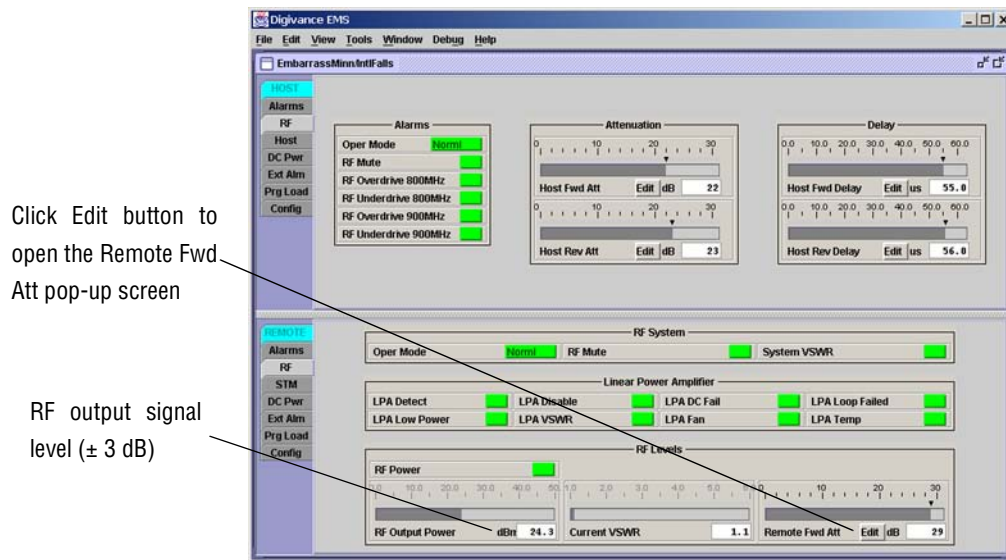
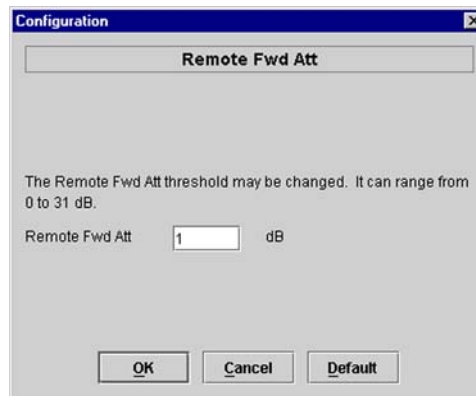

Figure 3-9. Typical REMOTE LPA Display
Figure 3-10. Remote Fwd Att Pop-Up Screen
1. Click on the REMOTE **RF** tab. The REMOTE **RF** display will open within the EMS main window as shown in Figure 3-9.
4. Click on the **Remote Fwd Att** field **Edit** button (see Figure 3-9). The **Remote Fwd Att** pop-up screen will open as shown in Figure 3-10.
6. Verify that the appropriate RF output signal level appears in the **RF Output Power** field (see Figure 3-9). This is primarily a reference value and should not take the place of external test equipment when determining the power level of the composite RF output signal. Depending on the modulation type and number of channels, the EMS software may report a power level that is higher or lower ( $\pm 3$  dB) than the actual RF output signal.